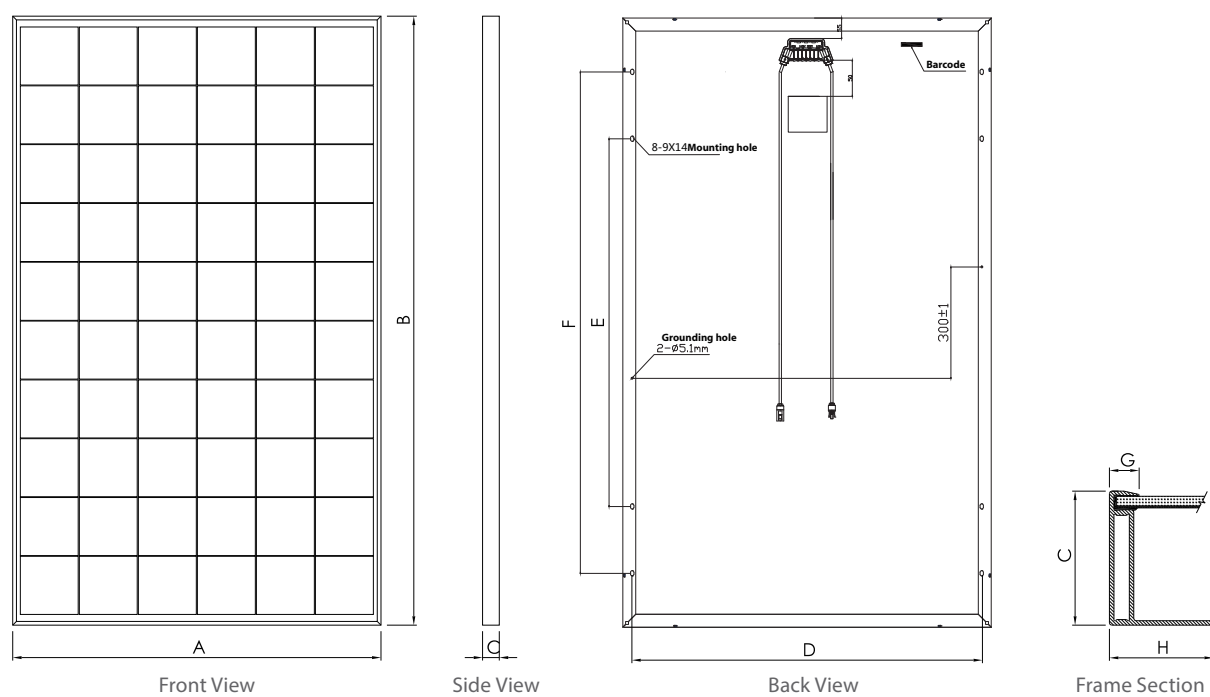

Figure 5
- Module Specification (as shown in Figure 5 and Table 2)